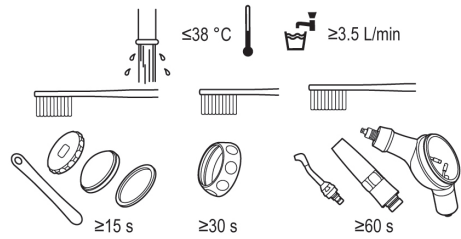

Fig. 26
1. Remove contaminants on the surface of the products under running water with a soft bristled brush (Fig. 26).